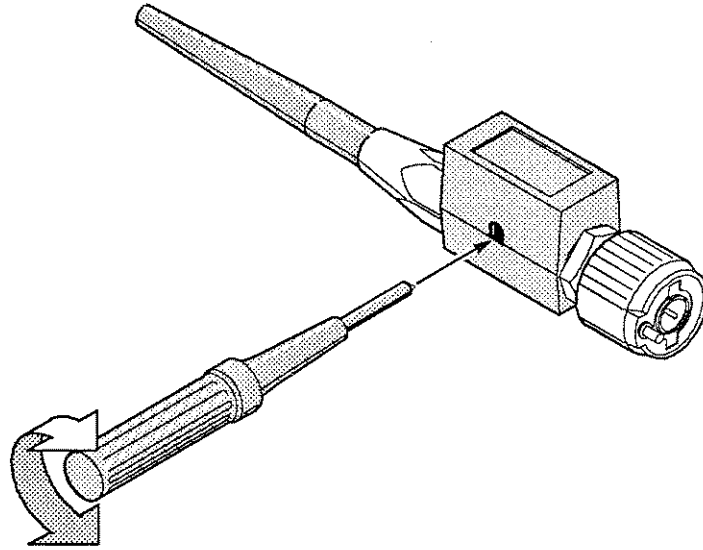

Figure 3-36: P6139A Probe Trimmer Adjustment
- Step 3:** Adjust the trimmer in the probe until you see a perfectly flat top square wave on the display. Figure 3-36 shows where the adjustment trimmer is located.